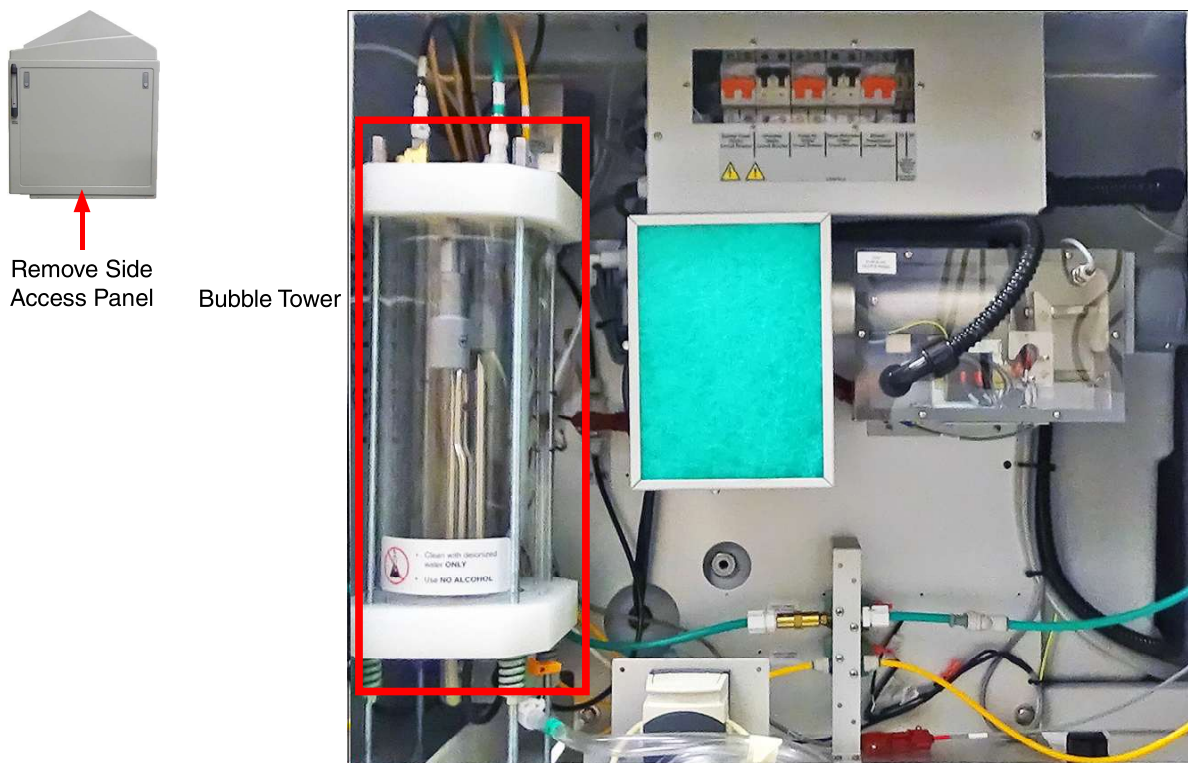

Figure 8.2: Access panel removed to show bubble tower (SSP model shown).
- The bubble tower is accessed by removing the right side access panel (Figure 8.2).